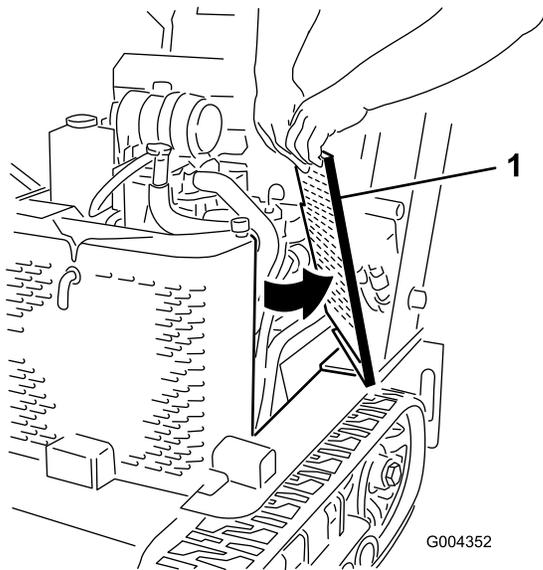

Figure 23
2. Slide the side screens (Figure 23) up and out of the slots in the front screen and frame.